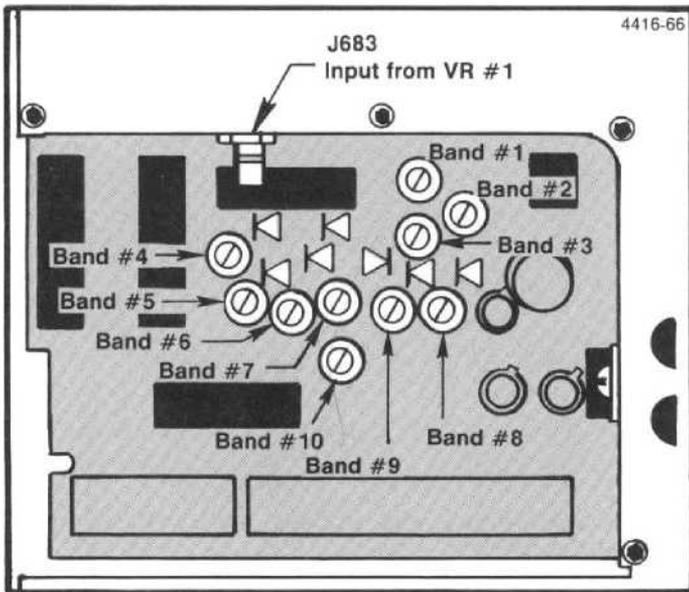

Figure 5-32. Band leveling adjustments and gain diodes on the VR#2 Mother board.
e. Adjust band 2 Gain R3034 on the VR#2 Mother board (Figure 5-32) for a full screen (-20 dBm) display.
g. Set the FREQUENCY to the incoming signal, FREQ SPAN/DIV to 500 kHz/Div and adjust band 3 Gain, R3030, (Figure 5-32) for a full screen display.
b. With -60 dBm input level applied, adjust Band 6 Gain Leveling, R3024, (Figure 5-32) for full screen display.